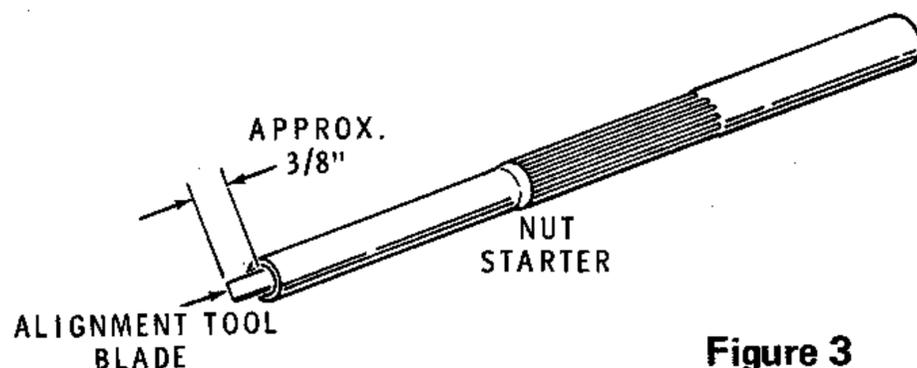

Figure 3
- () Refer to Figure 3 and push the alignment tool blade into the small end of the nut starter as shown. This will be used as an alignment tool in the following steps.